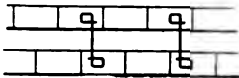
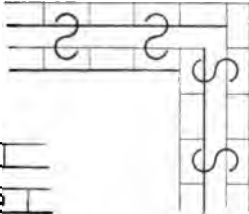

FIG. 2.
FIG. 1.
(178) Please advise me as to the strength and durability of a brick wall built and bonded with wire anchors, as shown in enclosed sketch (Fig. 1). F. R. S., Unionville, Mass.
the opening, as in Fig. 2. The wires in the position shown in Fig. 1 give the walls a chance to buckle, by reason of the wires becoming straight under stress.